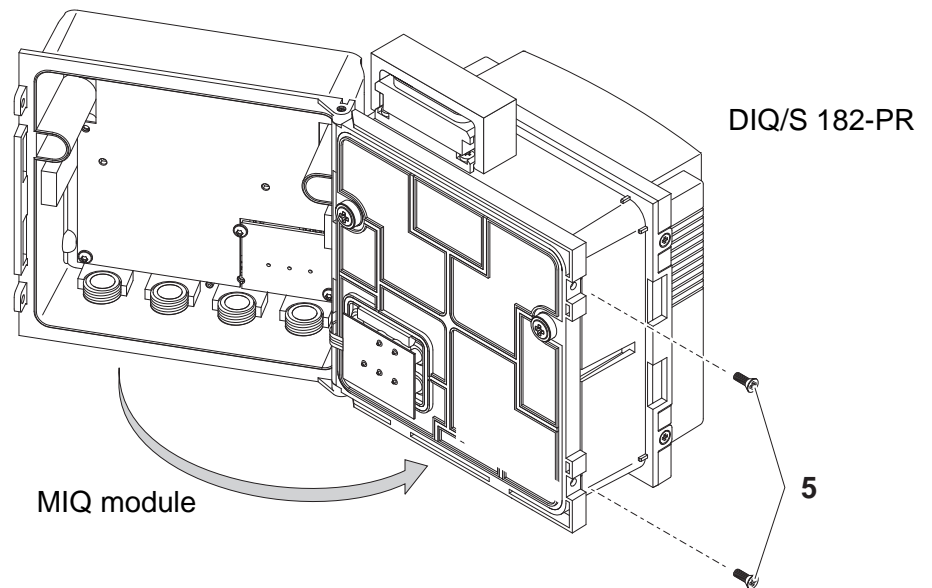

Fig. 3-10 Closing the enclosure (variant 2)
| 8 | Close the MIQ module and fix it with the two countersunk screws (pos. 5 in Fig. 3-10). |